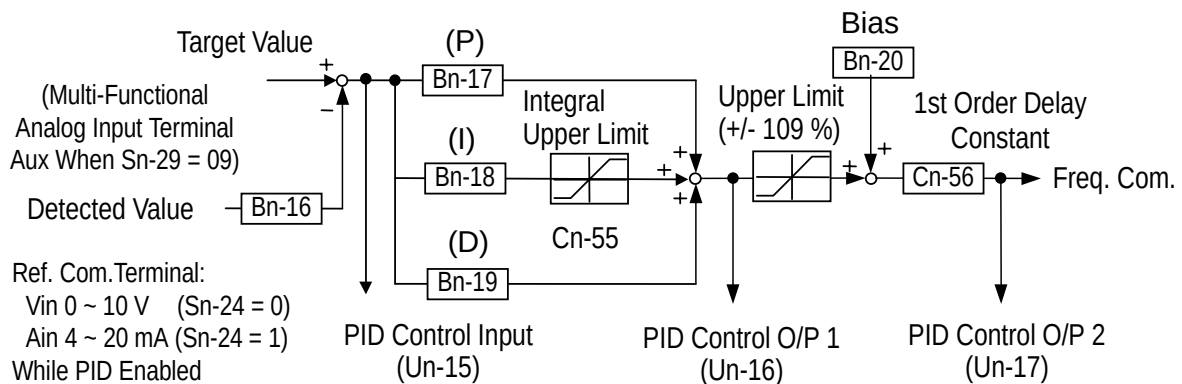

Figure 14 Block Diagram for PID Control in C10
- The PID Control Function is a control system that matches a feedback value (i.e., a detected value) to the set target value. Combining the Proportional (P), Integral (I) and Derivative (D) control enable the control to achieve required response with the constant setting and tuning procedure of PID Proportional Gain Bn-17, PID Integral Time Bn-18 and PID Derivative Time Bn-19.
- Figure 14 is a Block Diagram of the inverters’ internal PID Control.